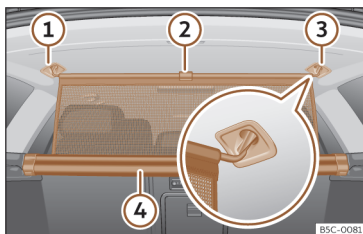

Fig. 189 In the boot: securing the partition net.
- Pull up handle >>> **Fig. 189** ② to remove the net from the casing ④.
- Hook in the net partition on the right or left side ③ (magnified image).
- Hook in the net partition into the housing on the other side ① by pulling the rod.